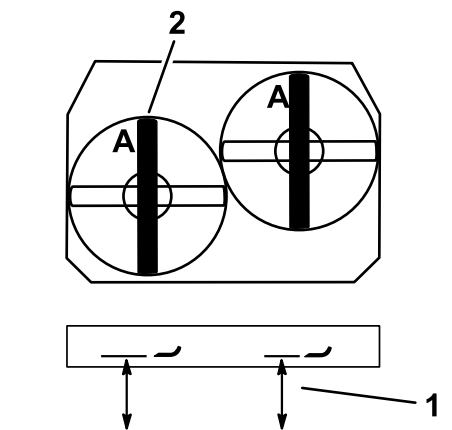

Figure 46
2. Measure from a level surface to the cutting edge, position A, of the blades (Figure 46).